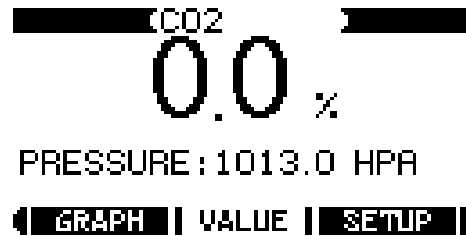

Figure 4: VALUE mode screenshot
The default mode after the start-up is the VALUE mode. It displays the name or chemical formula of the gas whose concentration is being indicated, the indicated concentration, and the pressure in the sampling cell, (See Figure 4 below)
If the navigation button beneath any of these options is pressed further options are revealed. These can be accessed through the menu system described below. If the navigation button on the right is pressed, when the display is as shown in Figure 4, the SETUP menu will be revealed and so is referred to as the SETUP button.
- 2i) While in the VALUE mode (shown in Figure 4, the default mode after switch on) press the right-hand navigator button – the SETUP button.
- 3i) While in the VALUE mode (shown in Figure 4, the default mode after switch on) press the right-hand navigator button – the SETUP button.
- 4i) While in the VALUE mode (shown in Figure 4, the default mode after switch on press the right-hand navigator button – the SETUP button.
- 5i) While in the VALUE mode (shown in Figure 4, the default mode after switch on press the right-hand navigator button – the SETUP button.
- 6i) While in the VALUE mode (shown in Figure 4, the default mode after switch on) press the right-hand navigator button – the SETUP button.